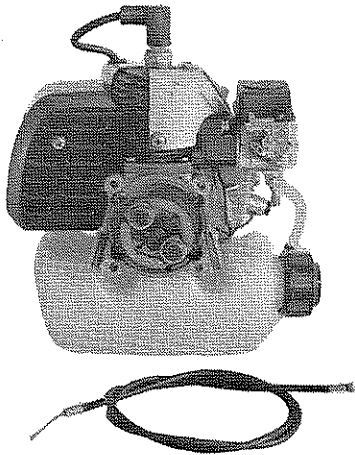

Figure 1
1. The engine is completely assembled and needs no further assembly other than attaching the drive shaft. You will note that even the throttle wire is assembled to the engine. Figure 1.